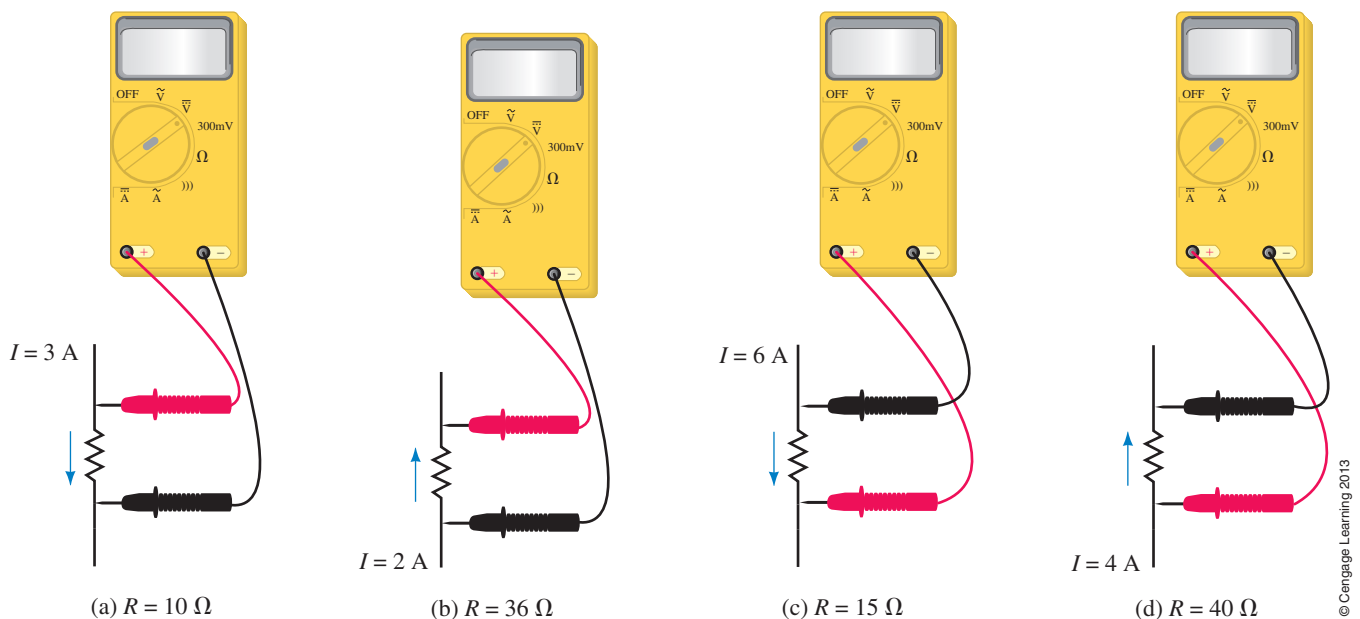

FIGURE 4-13
4. The voltmeters of Figure 4-13 have autopolarity. Determine the reading of each meter, its magnitude and sign.